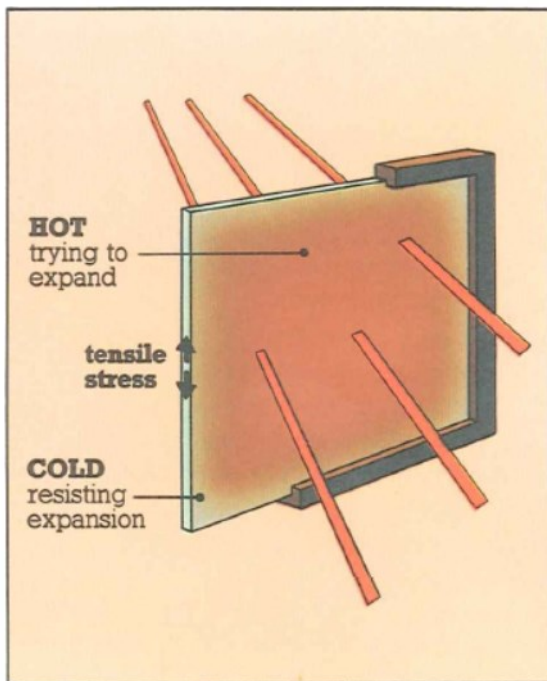

Figure 1: The generation of thermal stress
- As the central part of the glass absorbs heat from solar radiation, it expands. The edges, which are covered by the window frame, remain cooler than the uncovered part and therefore do not expand as much (figure 1). The resulting differential thermal expansion between the central part and the edges causes tensile stress along the edges which, if it reaches the breaking stress of the glass, will result in thermal fracture (Figure 2).